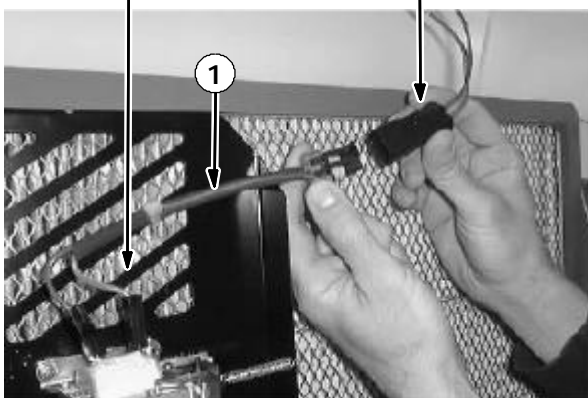

FIG. 5
6. Connect the new harness (1) to the filter shaker solenoid, and tie the new harness (1) to the shaker panel with cable tie (2). (Refer to FIG. 5 and 6)